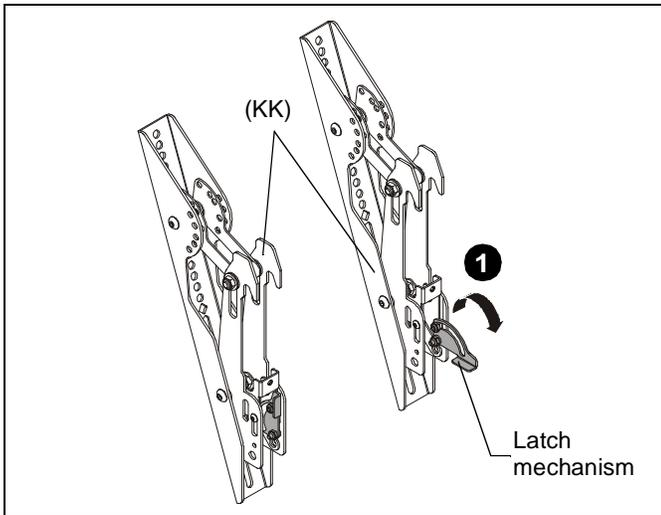

Figure 9
- Lower the latch mechanism on each interface bracket (KK). (See Figure 9)
1. Ensure that the latch mechanisms on interface brackets (KK) are already lowered. (See Figure 9)